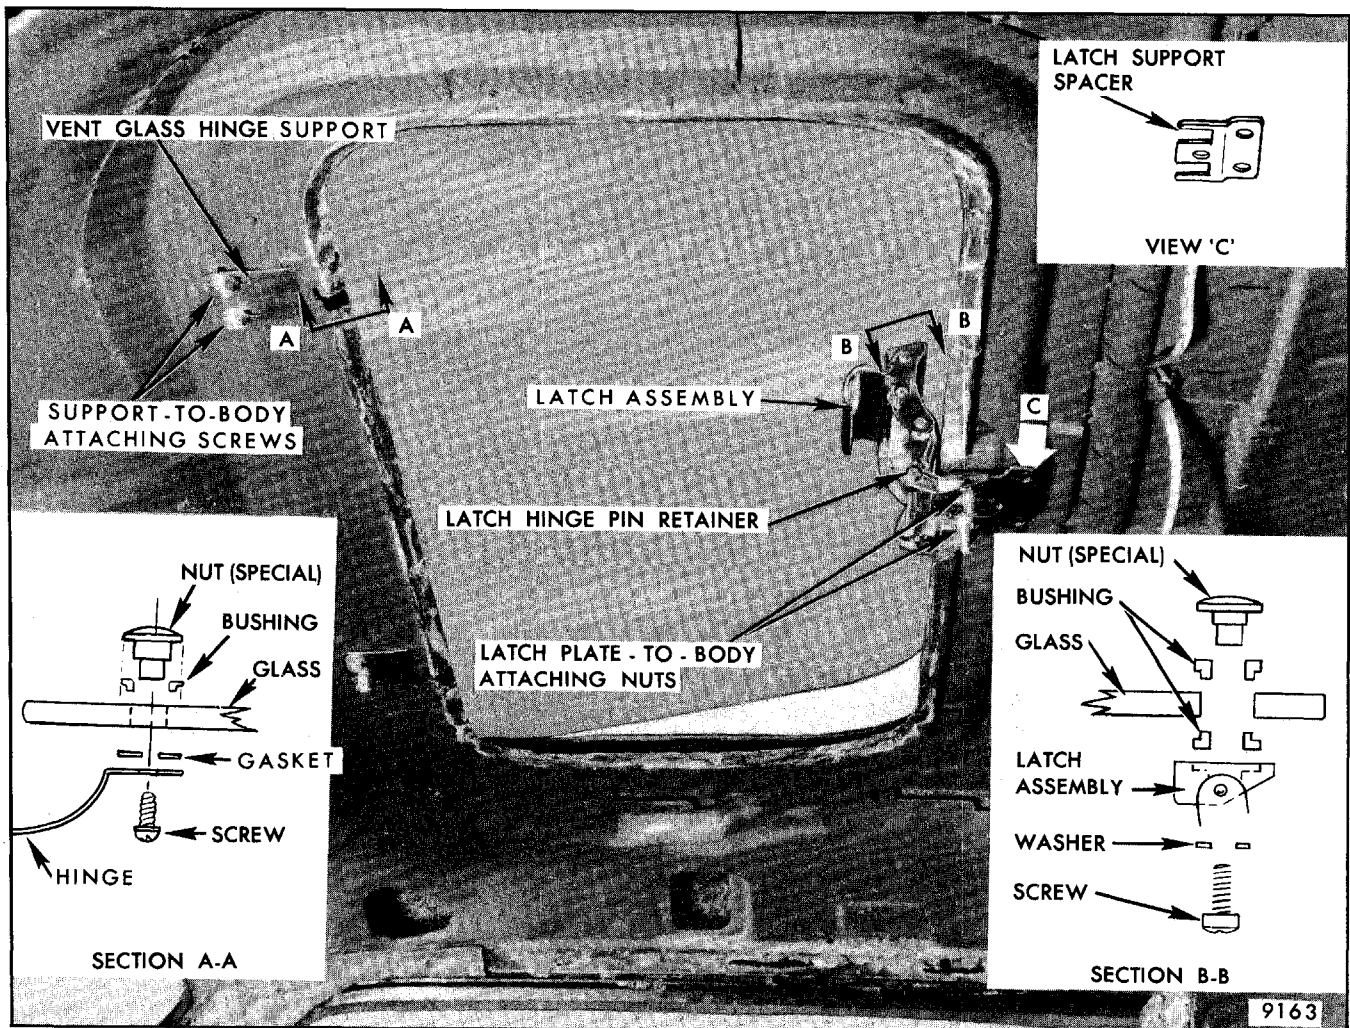
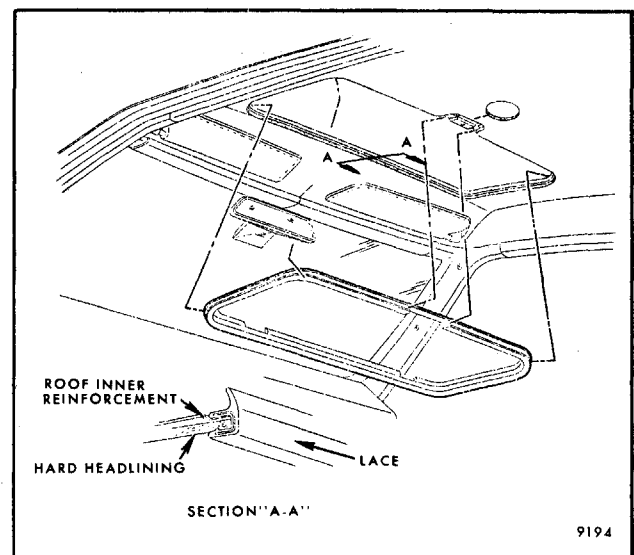
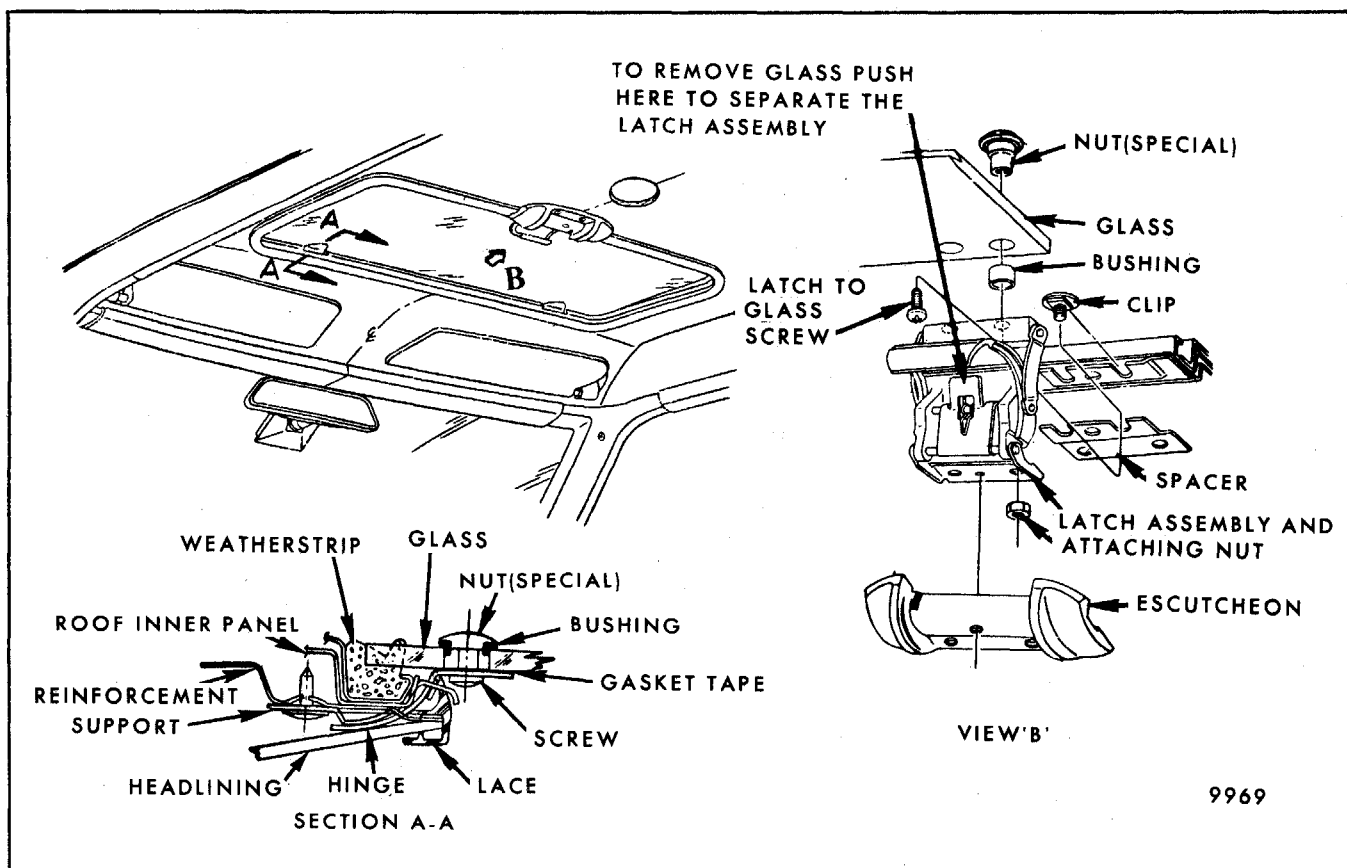
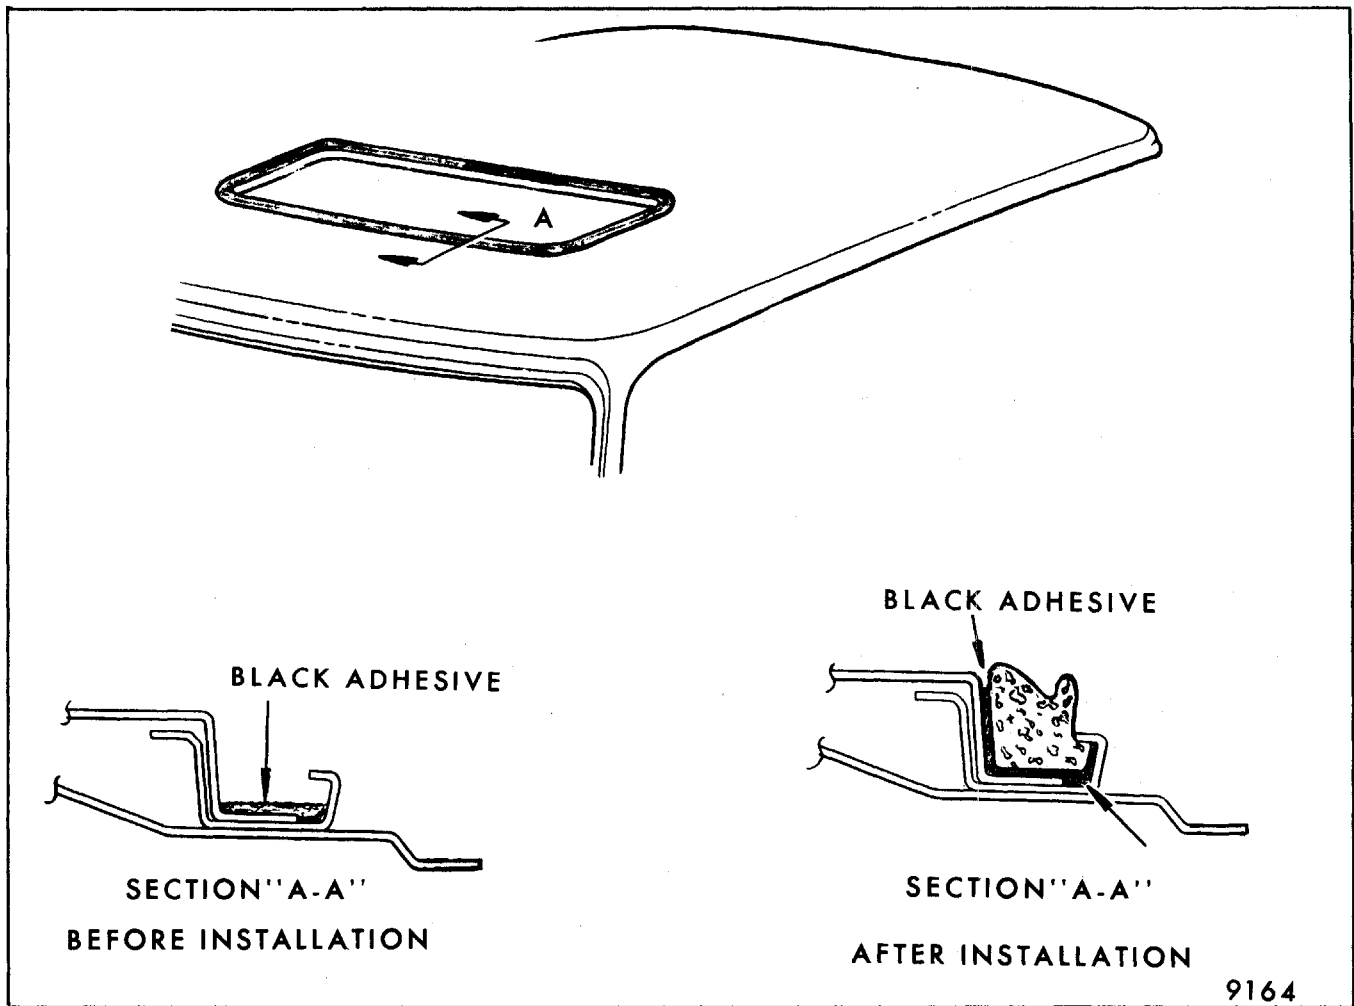

Fig. 8-131 - Vista Vent Hardware (Headlining Removed for Illustrative Purposes Only)
Fig. 8-132 - Vista Vent Lace Assembly Installation
Fig. 8-133 - Vista Vent Escutcheon, Latch and Hinge Installation
Fig. 8-134 - Vista Vent Weatherstrip Installation
device. The latch assembly is attached to the glass with screws which pass through the glass and into special shoulder nuts. The screws and nuts are insulated from the glass with protective bushings. The hinge supports are screwed to the roof inner panel reinforcement (see Fig. 8-131). The vent glass closes against a one-piece weatherstrip which is cemented and sealed within the gutter of the roof opening (see Fig. 8-134). The lace assembly is positioned over the hard headlining and roof reinforcement flange (see Fig. 8-132).
If new vista vent glass is being installed, transfer upper portion of latch assembly and all special nuts and bushings (upper and lower) from original glass to new glass and add new gaskets (see Fig. 8-131) as a bench operation. Torque latch-to-glass and hinge-to-glass attaching screws to 14 to 24 in-lb.
2. Remove hinge-to-glass attaching screws and remove hinge (Section A-A, Fig. 8-131).
VISTA VENT GLASS LACE ASSEMBLY (Fig. 8-132)
1. Remove vista vent as previously described and remove escutcheon assembly as shown in Figure 8-133.
1. Open vista vent fully and remove latch escutcheon assembly (Fig. 8-133). Detach roof trim lace along front edge of opening (Fig. 8-132).
2. Remove hard headlining from inner panel reinforcement at glass hinge areas sufficiently to provide access to hinge support-to-body attaching screws (Fig. 8-131).
3. Add spacer (part no. 9660357 or equivalent) to lower glass or remove existing spacer to raise glass (view C, Fig. 8-131).
2. Remove hard headlining from roof inner panel reinforcement at hinge support area(s) sufficiently to provide access to attaching screws and remove screws (Fig. 8-133).
2. Remove latch-to-glass attaching screws and remove latch assembly (Section B-B, Fig. 8-131).
1. Disengage glass assembly from hinge supports and detach roof trim lace along front edge of opening (Fig. 8-132).
VENT GLASS WEATHERSTRIP (Fig. 8-134)